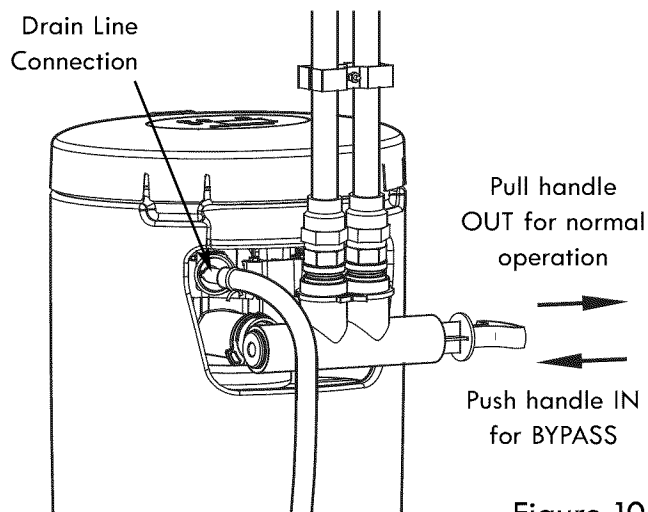

Figure 10
1. Measure, cut to needed length and connect the 3/8" drain line (provided) to the Central Water Whole Home Filtration System valve drain fitting (See Figure 10). Use a hose clamp to hold the hose in place.
1. Make sure the single bypass valve (or 3 valve bypass, if installed) is in the bypass position, with the handle pushed in (See Figure 10).
4. Slowly move the bypass valve(s) to the normal operation position, pausing several times to allow the unit to pressurize slowly (See Figure 10).